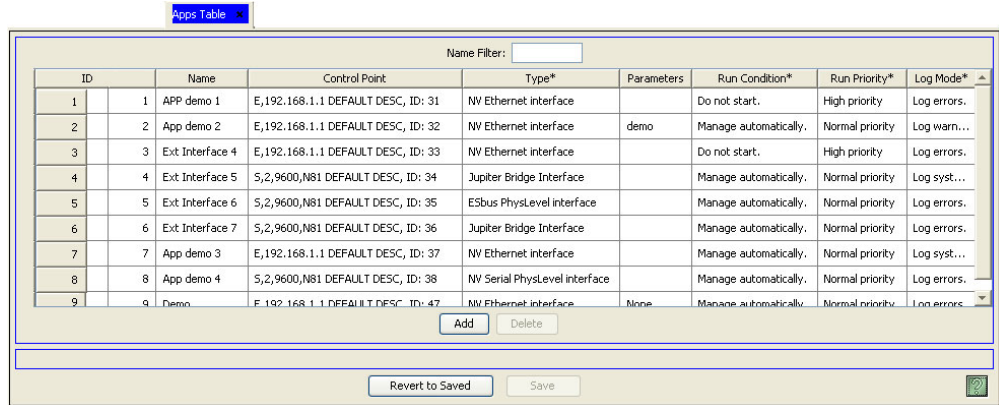

Figure 14-20. Apps Table
- 2 From the Navigation area, select the 'Views' pane and then 'Apps'. The 'Apps' table appears, as shown in Figure 14-20.